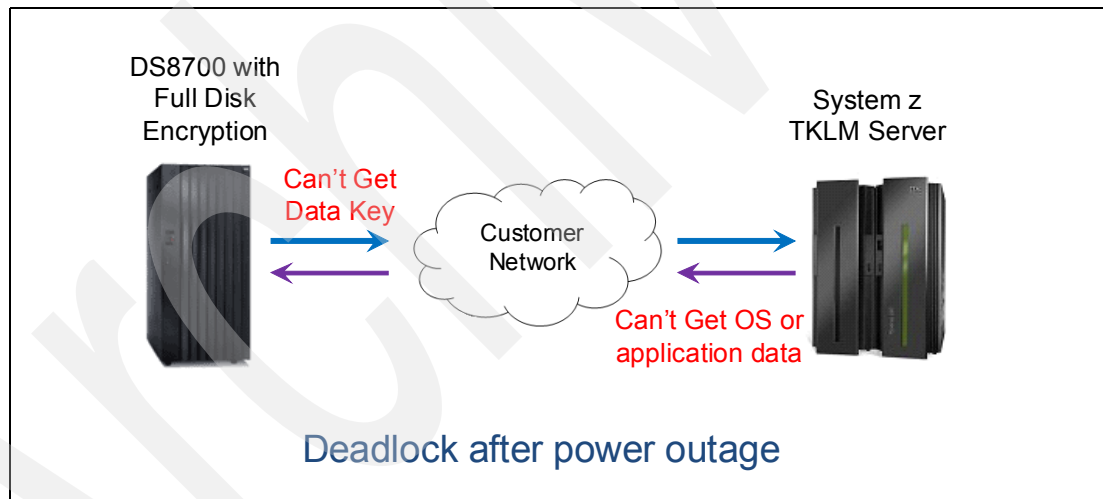

Figure 4-9 Deadlock scenario
So it becomes possible, due to a planning error or even the use of automatically-managed storage provisioning, for the System z TKLM server storage to end up residing on the DS8000 that is a client for encryption keys. After a power interruption event, the DS8000 becomes inoperable because it must retrieve the Data Key (DK) from the TKLM database on the System z server. The TKLM database becomes inoperable because the System z server has its OS or application data on the DS8000. This represents a *deadlock* situation. Refer to Figure 4-9 for a depiction of this scenario.